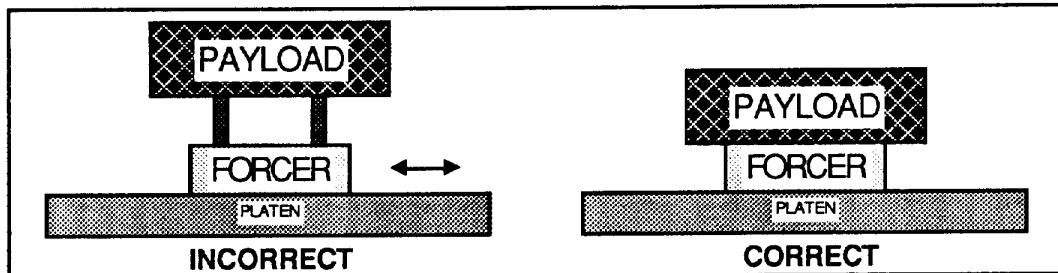

Figure 3-11. Proper Payload Mounting
- Redesign the payload to bring the payload center of gravity closer to the platen surface (see Figure 3-11).
- Mount the payload on some sort of linear slide (e.g., Thompson rail) and use the forcer merely to push the payload back and forth on the linear slide. *When coupling the load to the forcer in this situation, you must allow some flexibility to compensate for that fact that the platen and the linear slide are not exactly parallel.* For more information, contact a Compumotor Applications Engineer at (800) 358-9070.